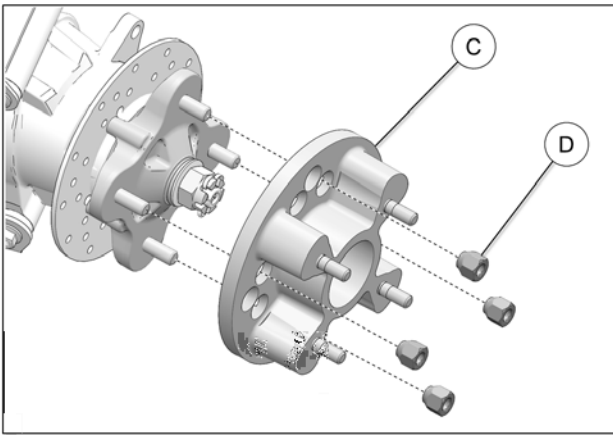

Fig. 9
9. Install the wheel spacers (C) on the rear hubs. Use M10 x 1.25 wheel nuts (D) supplied in the installation kit. Refer to Fig. 9